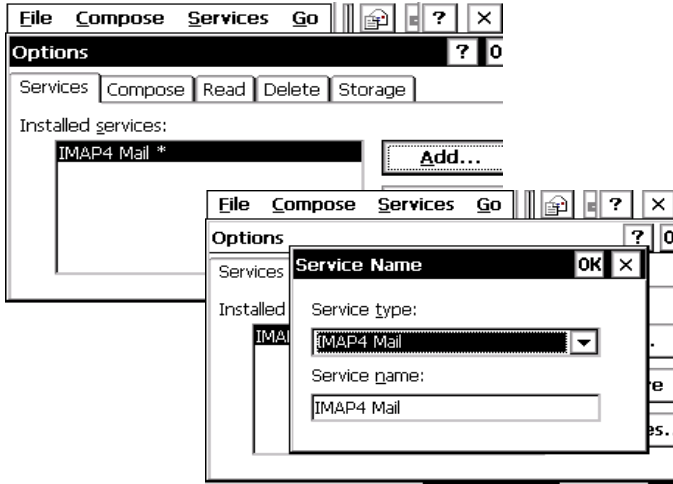

Figure 4-7. Options Dialog Box – Service Panel
2. Tap **Services ▶ Options**. The *Options* dialog box displays (Figure 4-7 on page 4-6).
3. On the **Services** tab, click **Add** (Figure 4-7). The *Service Name* dialog box displays (Figure 4-7). Select or enter the following information and press **OK**. The *IMAP4 Mail Service Definition* dialog box displays (Figure 4-8 on page 4-7).
8. Choose any of the optional settings, and then click **Finish**. The **Mail Service Setup** wizard closes and returns to the *Options* dialog box (Figure 4-7 on page 4-6).
9. Close the *Options* dialog box to return to the **Inbox** window (Figure 4-7 on page 4-6).